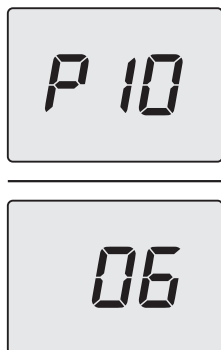

Figure 5.52
- Scroll through the various parameters by pressing the keys 13 (back) or 15 (forward), until **P10**, which alternates with the parameter value, appears on the LCD display (Figure 5.52).